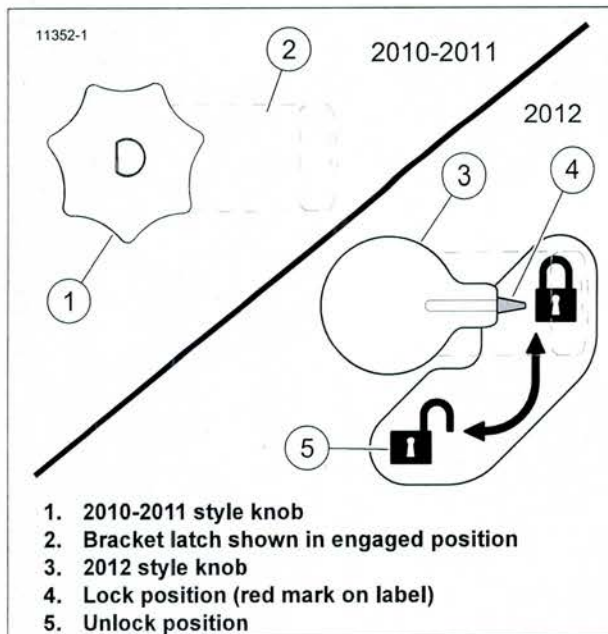

Figure 4. Saddlebag Lock Knob
- See Figure 4. Open the saddlebag. Pull and rotate the lock knob in toward the front of the vehicle to release the bracket latch.
- See Figure 4.